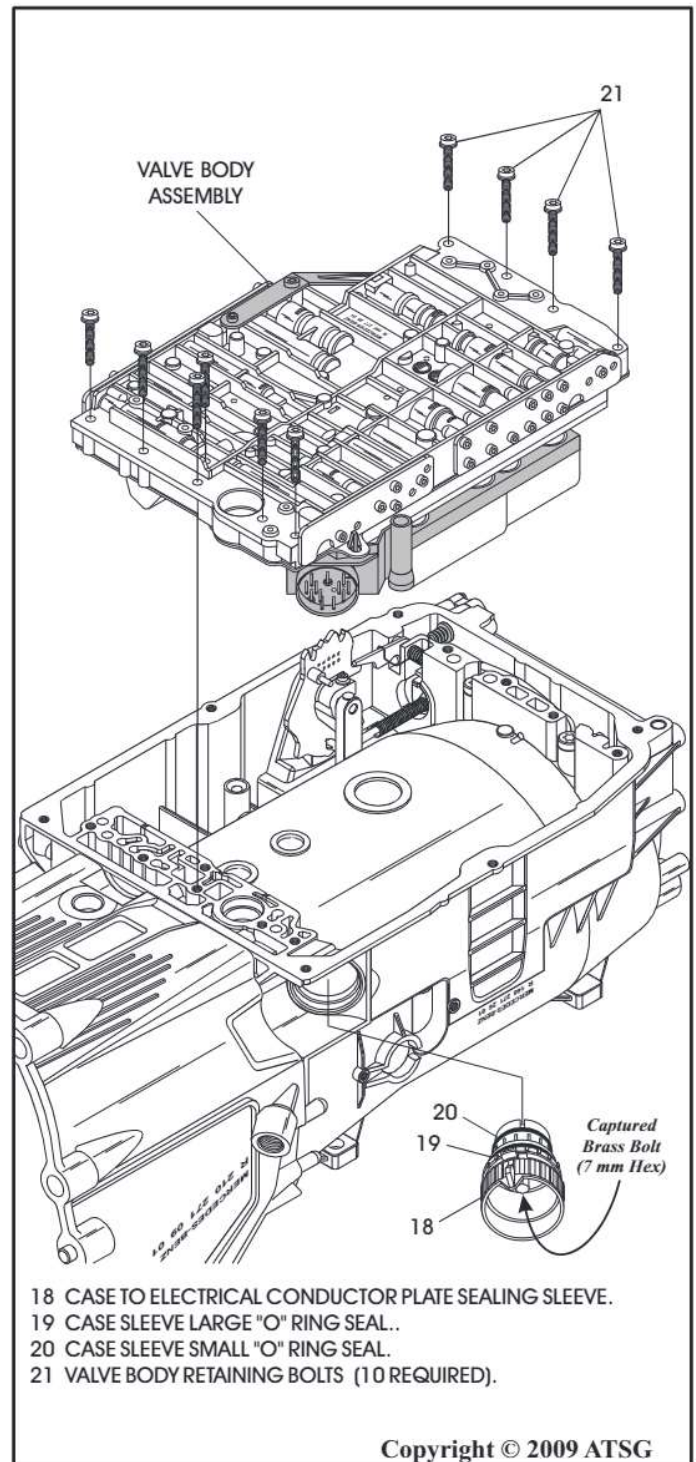

Figure 47
19. Remove the case to electrical conductor plate sealing sleeve, as shown in Figure 47.
- Note:** You must remove the "captured" brass bolt in the center of the sleeve, as shown in Figure 47, using a 7 mm socket (9/32" socket will work as well).
20. Remove and discard both the large and small "O" ring seals (See Figure 47).
21. Remove the ten valve body retaining bolts, as shown in Figure 47, using a 30 torx bit.
22. Remove the complete valve body assembly, as shown in Figure 47, by lifting straight up.